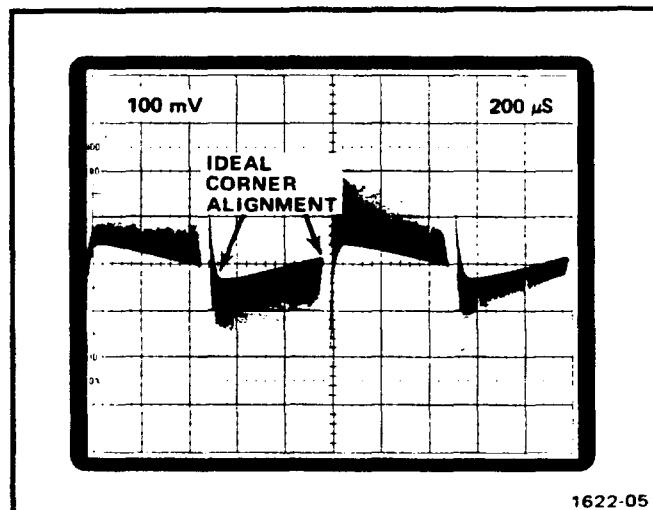

Fig. 2-1. Representation of complex waveform (idealized) with 5 volt reference amplitude at 0.05 MHz, properly set.
d. Set the time-base triggering controls for a stable display; a CRT display similar to Fig. 2-1 is obtained.
e. Check—that the corners of the idealized waveform are aligned as illustrated in Fig. 2-1, within 1.5 vertical divisions. Disregard waveform tilt.